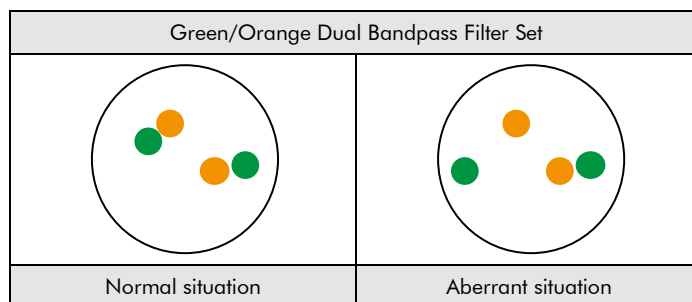

Fig. 2: Expected results in normal and aberrant nuclei
**Normal situation:** In interphases of normal cells or cells without a translocation involving the ETV6 gene region, two green/orange fusion signals appear (see Fig. 2).
**Aberrant situation:** One ETV6 gene region affected by a translocation is indicated by one separate green signal and one separate orange signal (see Fig. 2).